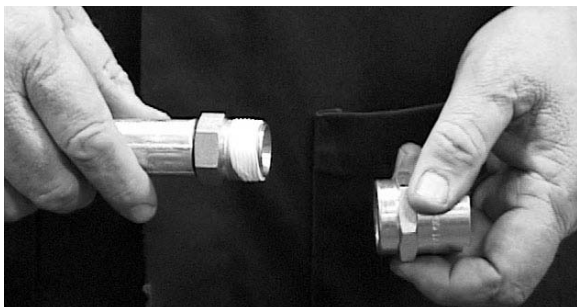

Figure 9-24. Wrap Threads with Teflon Tape.
3. Wrap the external threads of the hose fitting with teflon tape as shown in Figure 9-24.
4. Use a 1-3/8-inch open-end wrench to hold the Q.D. Socket (20) in place. Start